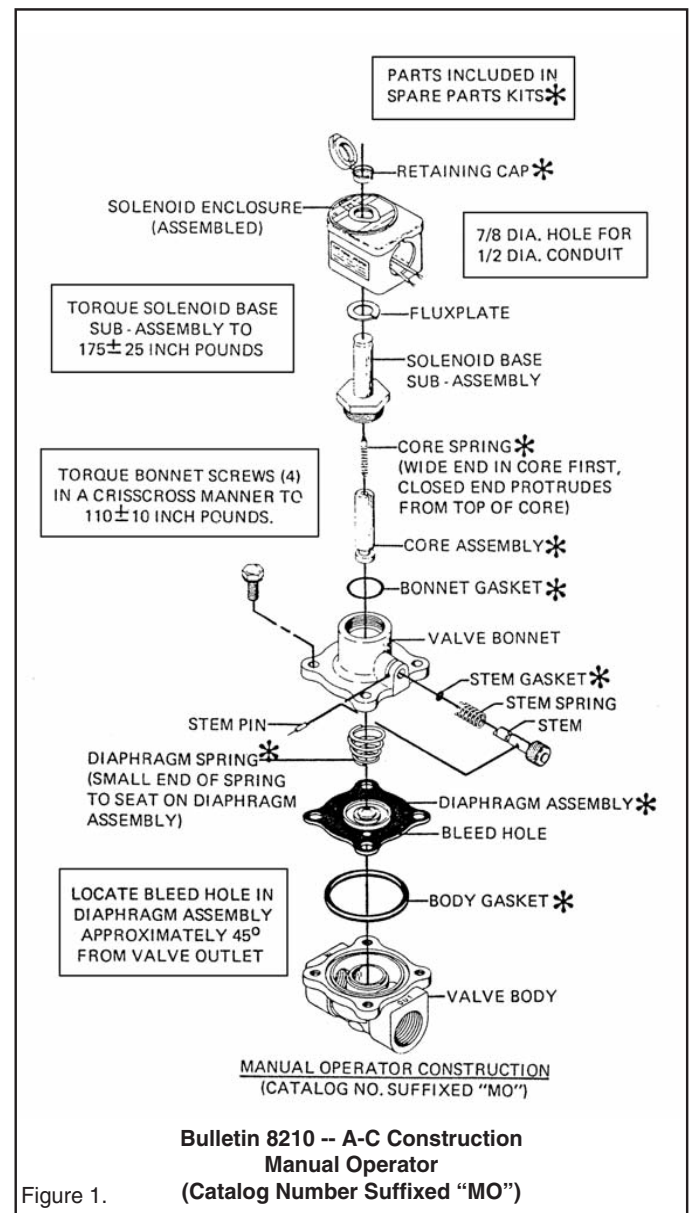

Figure 1.
## COIL REPLACEMENT (Refer to Figures 1, 2 and 3)
Depressurize valve and turn off electrical power supply. For A-C Construction, refer to Figures 1 and 2. For D-C Construction, refer to Figure 3. Proceed in the following manner:
3. Replace valve bonnet and bonnet screws. Torque bonnet screws (4) in a crisscross manner to 110 ± 10 inch pounds.
4. For A-C Construction, the diaphragm spring, core assembly and core spring must be installed prior to assembly of bonnet as this is the solenoid base sub-assembly. Be sure diaphragm spring is installed properly. Closed turns of spring to seat on diaphragm assembly. For valves with a manual operator (see Figure 1), the small end of diaphragm spring seats on diaphragm assembly.